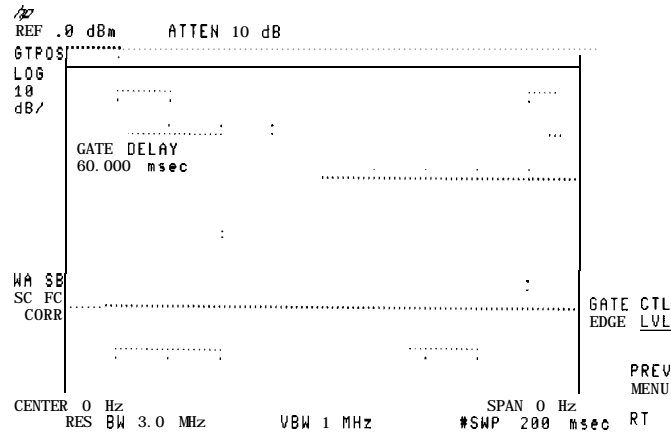

Figure 4-33. Using the Level Gate Control
- To check the gate control function, press **[SWEEP]**, Gate Control, GATE CTL EDGE LVL so that LVL (level) is underlined (see Figure 4-33).